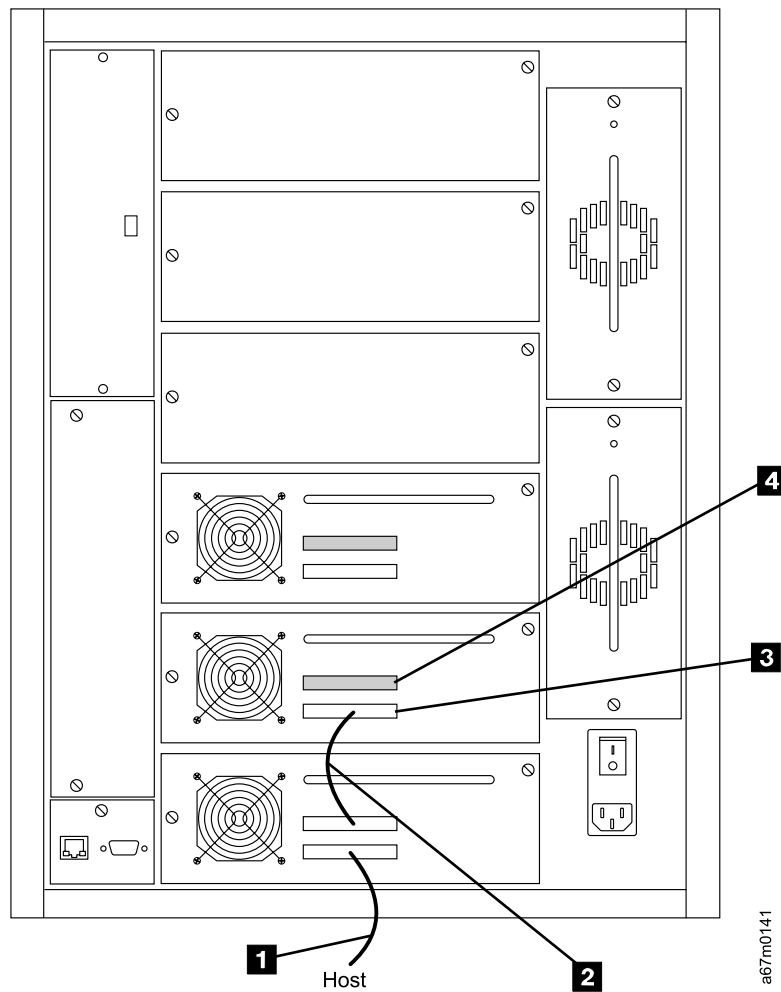

Figure 37. Making the host-to-drive connections with the SCSI Multi-Path feature and two hosts
1. Attach the first host cable (**1** in Figure 37) to the lowest available drive in the logical library.